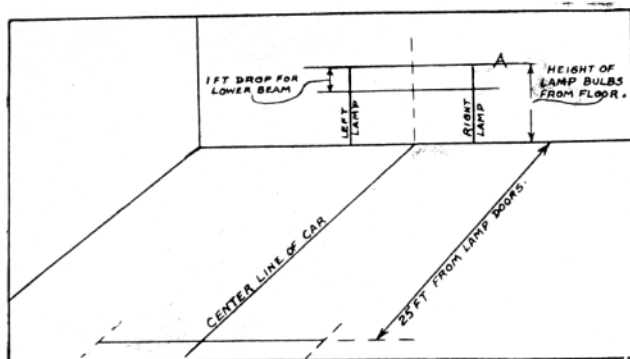

Fig. 4. Car Position
*Second*—Mark a horizontal line "A" (Fig. 4) on the wall at the height of headlight bulbs from ground. Next mark two vertical lines from line "A" to the ground, exactly in front of each headlamp center. The distance between these vertical lines should be the same as the distance between the headlight bulbs.